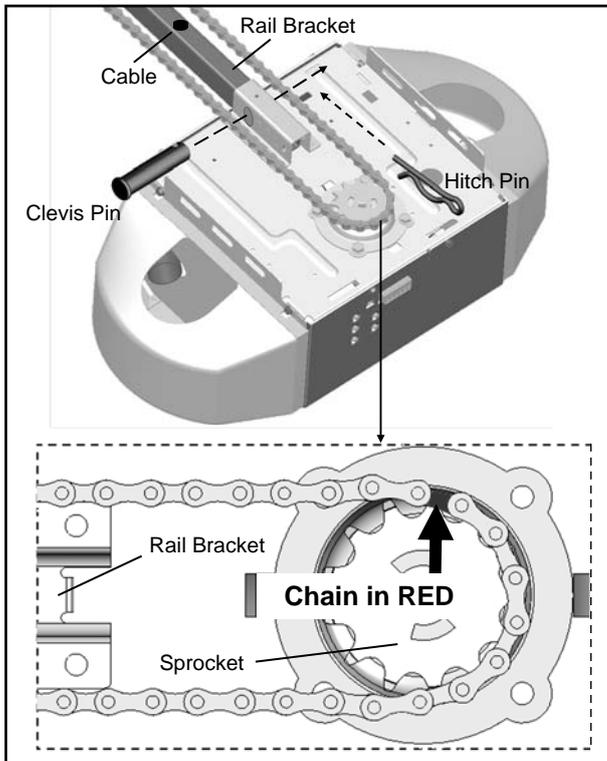

Fig.1
3. A segment of chain marked in RED will be seen. Place this segment in the approximate location on the sprocket as shown in Fig.1.